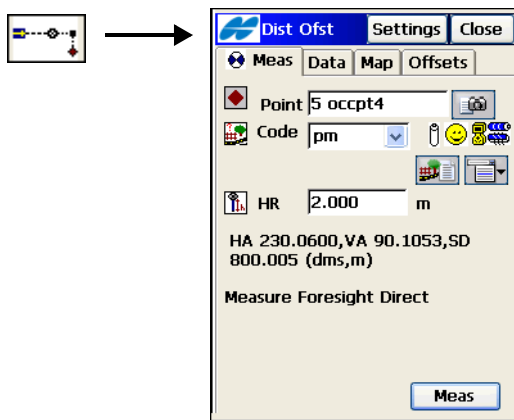

Figure 11-14. Distance Offset – Measurement Tab
The *Measurement* tab (Figure 11-14) on the *Dist Ofst* screen contains the parameters for definition of a point. You can add or subtract distances, horizontally and vertically.
- **Meas** – performs the measurement (Figure 11-14 on page 11-14).
- **Settings** – opens the **Mode** screen for setting the sideshot mode. (Figure 11-14 on page 11-14)